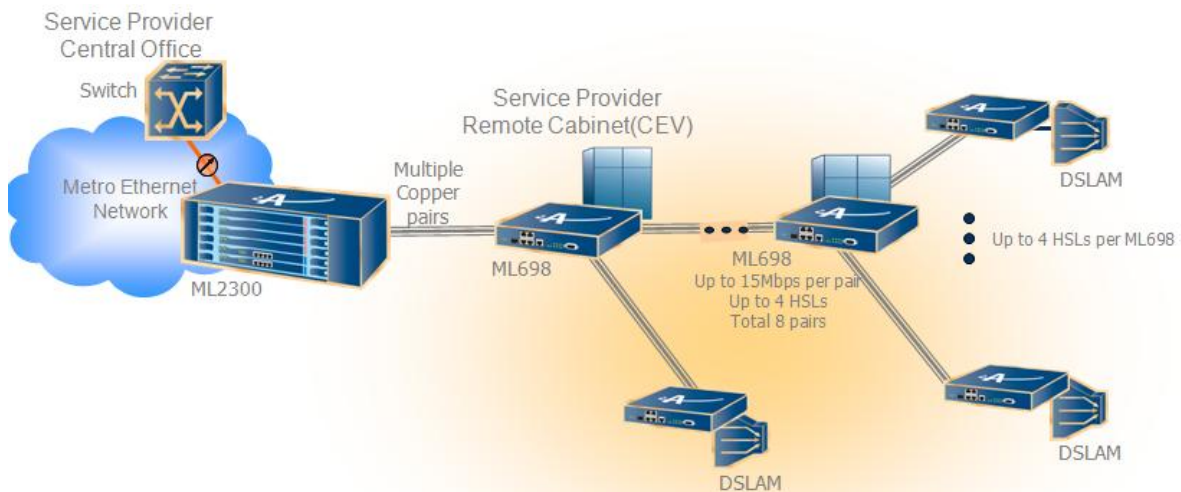

Figure 4: ML698 in an Add/Drop Topology
- The ML698 is ideally suited for add/drop functionality from the central office to connect multiple DSLAMs on the same copper pairs. This device supports 4 pairs east and 4 pairs west. Figure 4 (Figure 4: ML698 in an Add/Drop Topology) illustrates an application using add/drop design.